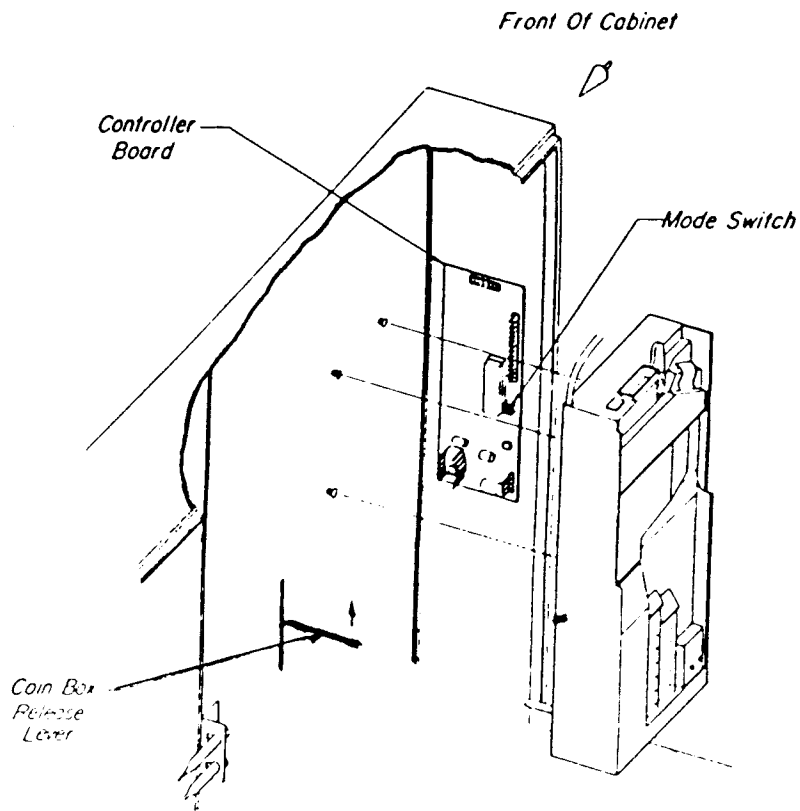

FIGURE 2
05. Install coin changer into the machine in the area located behind the sliding door (changer access door) on the right side of the compartment. See figure 2 pg. 6. There are three (3) screws with approximately 5 mm of thread showing. The changer is mounted on these screws. Open the acceptor and tighten the two (2) top screws. Plug the large electronic plug on the changer into the connector provided and the small nine (9) pin plug into the receptacle on the control board wiring harness.
To the bottom left of the coin changer is the coin box release lever (see figure 2). Pull up on this lever and the coin box will slide forward out the front of the machine, allowing you to remove the coin box. To lock the coin box, push the coin box into the cabinet until the front of the box is flush with the cabinet.